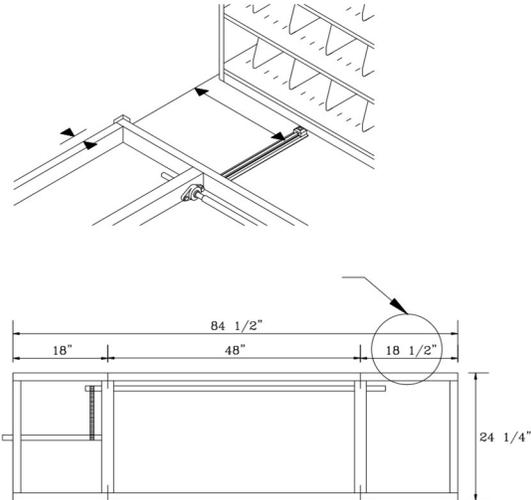

Figure 8: Find rear cantilever dimensions on production drawing and add 2" for clearance - usually 20 1/2"
- **Track Layout:** Position the tracks and check for approximate squareness and set spacing between tracks from the drawing and/or carriages. Begin with the rear track, placing it parallel to the rear wall. In most cases, the distance from the wall to the track centre will equal the distance from the centre point of the wheel to the rear edge of the carriage frame plus 2". This provides approximately two inches of space between the mobile units and the wall. Consult your shop drawings or measure the carriage to be sure (Fig. 8). Levelled deck systems are designed to have the static carriages rest on top of the track. Lay out the remainder of the tracks according to the shop drawings, and position as accurately as possible. Measure corner-to-corner to ensure the system is roughly square, and adjust as necessary.